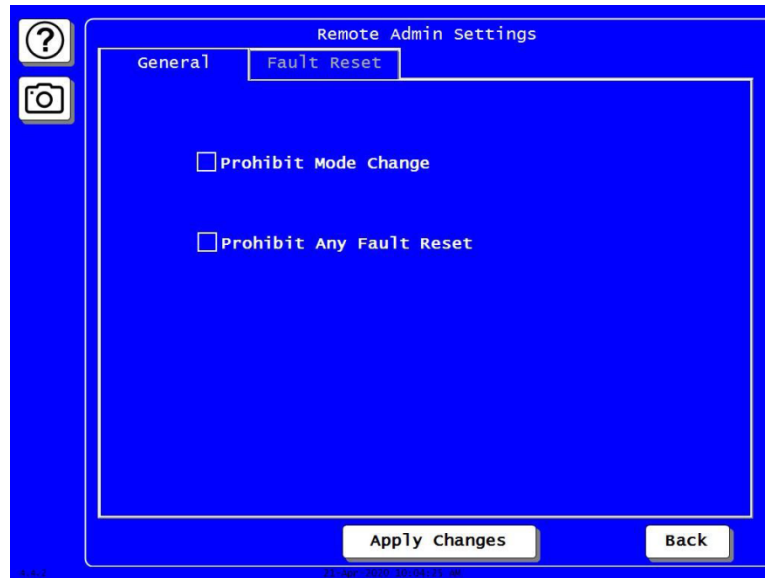

Figure 7 - Remote Admin Settings Screen (with General tab selected)
4. The Remote Admin Settings screen will appear (see Figure 7).